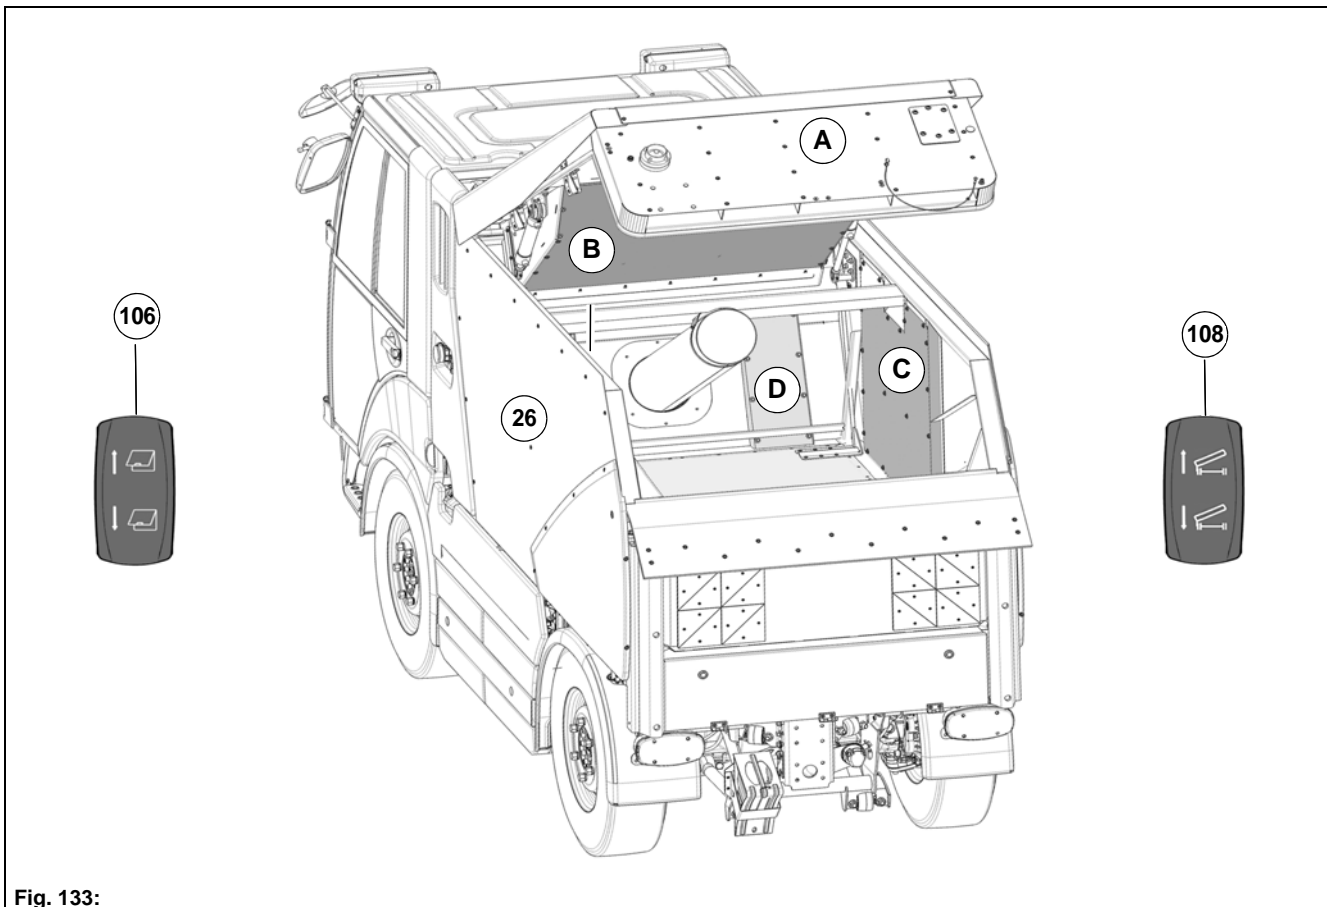

Fig. 133:
2. Open the dirt hopper flap **Fig. 133-A** with the tip switch **Fig. 133-106**.
- The inside of the dirt hopper flap **Fig. 133-A**
- The grille **Fig. 133-B** of the suction fan
- The lateral sieves **Fig. 133-C**
- The front sieves **Fig. 133-D**